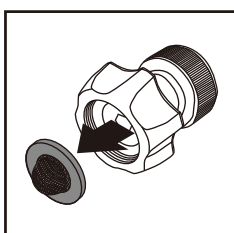

Fig. 15
- The screen inside the clear adapter should be cleaned periodically. Insert a pen or pencil in small hole at the end of the adapter. The screen filter will slide out (Fig.15). Rinse it with clean water, and then place it back in the adapter.